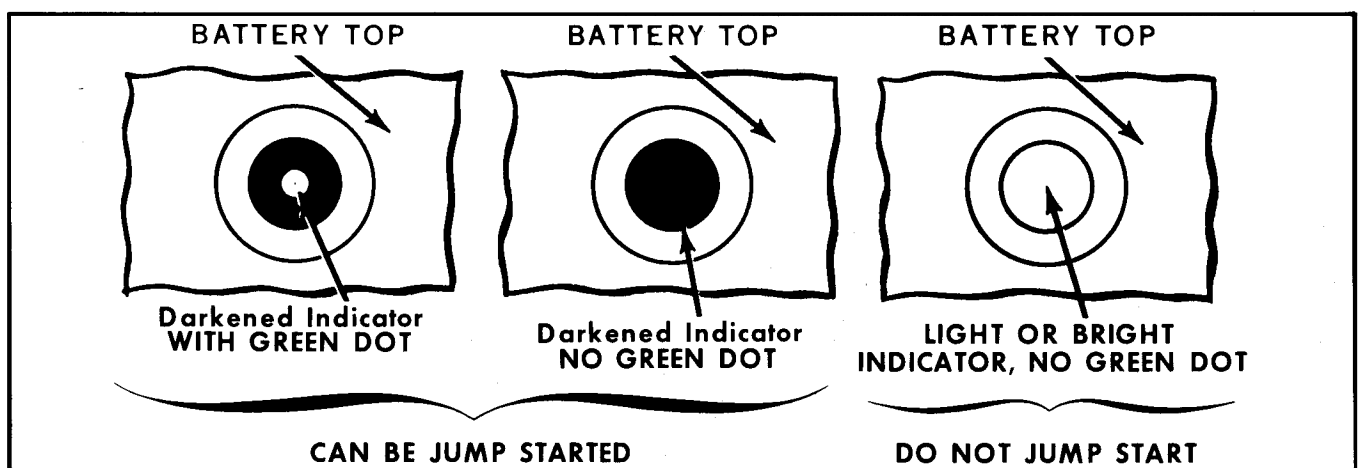

Figure 21—Charge Indicator Conditions
a. **GREEN DOT VISIBLE**—Figure 21. If the charge indicator is dark and has a green dot in the center, the battery is sufficiently charged.
b. **DARK—GREEN DOT NOT VISIBLE**—Figure 21. If the charge indicator is dark and the
c. **LIGHT**—Figure 21. If the charge indicator has a light or bright center and a cranking complaint has been experienced, replace battery (**DO NOT** attempt charging or testing when indicator has a light or bright center.